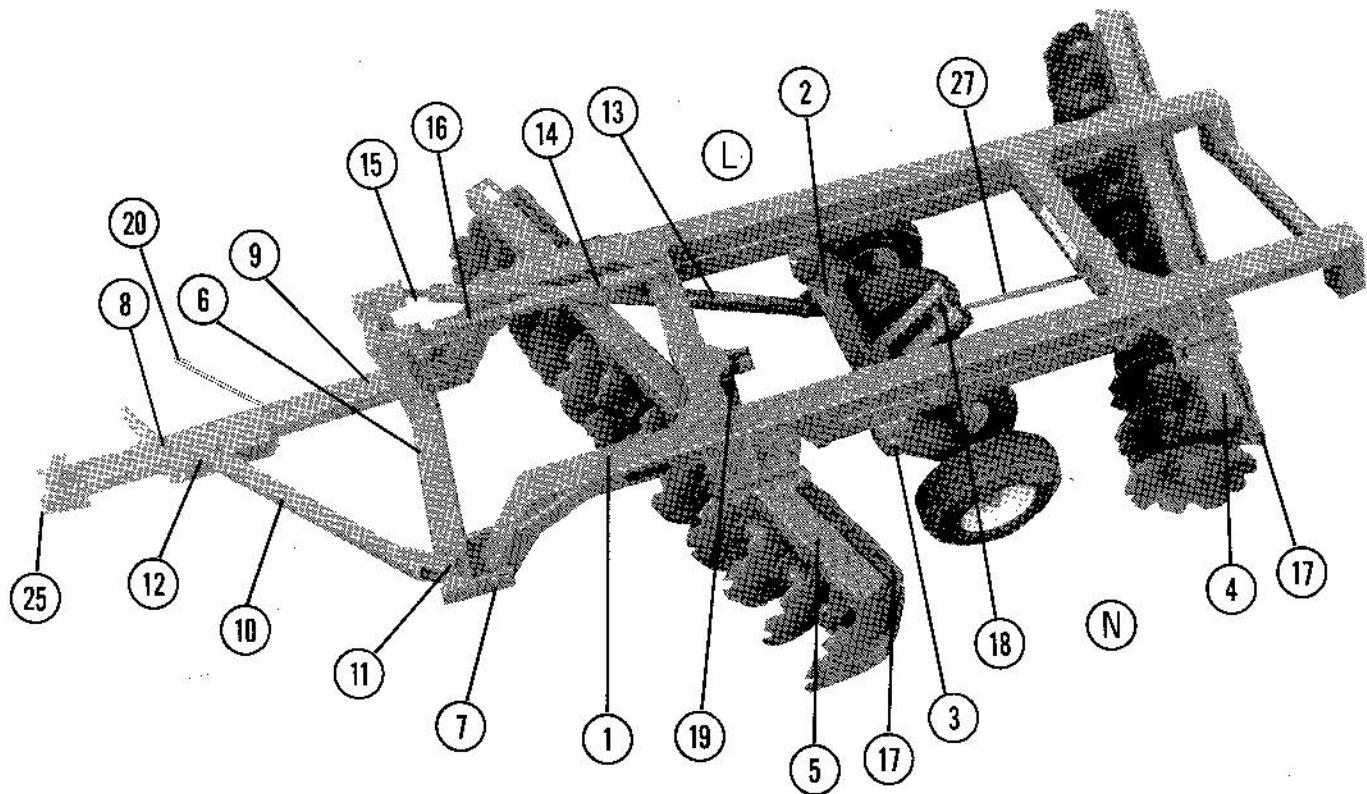

Figure 1
1. **To Install Wheel Carriage and Wheels:** (Refer to Figure 1) Place wheel carriage(2) under the main frame(1) and attach frame with pins(3). Install 5/16 x 2 lock bolts in pins and tighten lock nuts securely. Install wheels on to hubs with wheel bolts provided and tighten securely.
2. **To Attach Gang Bars to Frame:** (Refer to Figure 1) Bolt rear gang bar(4) to main frame(1) in center set of offsetting holes and in next-to-maximum angle with  $\frac{7}{8}$  x 3½ bolts. Install leveling washers on top of angling plates on long side of disc(L). Install levelling washers between gang bar and angling plates on narrow side of disc(N). Bolt front gang bar(5) to main frame in next to maximum angle with  $\frac{7}{8}$  x 3½ bolts. Install leveling washers same as rear gang.
3. **To Attach Hitch Bridle to Frame:** (Refer to Figure 1) Place bridle(6) at front of frame(1) and attach with pins(7). Install lock bolts and tighten nuts securely.
4. **To Attach Hitch Pole to Bridle:** (Refer to Figure 1) Attach main hitch pole(8) to bridle(6) at lead corner(9) with 1 x 6 bolt. Attach hitch side arm(10) to opposite side of bridle(11) with 1 x 6 bolt. Join hitch pole and side arm with 1" pin at adjustable eye bolt(12). Tighten all bolts securely.
5. **To Attach Fore-Aft Leveling Assembly:** (Refer to Figure 1) Install short tube(13) to wheel carriage with 1" pin. Install long tube(14) with 1" pin. Slide short fore-aft eye bolt(15) into bottom tube(13) (pinned to wheel carriage) and pin to bottom hole of bridle mast(6). Slide long fore-aft eye bolt c/w spring and washers into top tube(14) (attached to main frame) and pin to top hole of bridle mast(6).
6. **To Attach Scrapers:** (Refer to Figure 1) Attach scraper bars(17) to gang bars (4 & 5) with carriage bolts provided. Attach scrapers to scraper bar with clamps and bolts provided use care to adjust scrapers close to discs but not rubbing.
7. **To Double Wide Right and Left Hand Offsets:** (Refer to Double Wide drawing). Set together following regular instructions except item No. 4 - to attach hitch pole to bridle - the hitch pole is attached to the opposite side from the lead corner and the side arm is attached to the lead corner with 1 x 6 bolt. Set left hand disc(1) stationary and pull right hand disc(1) along side leaving front gang of right hand disc behind front gang of left hand disc. Attach rear spreader bar(5) with pins. Attach front spreader bar(6) with pins. Join right hand main hitch pole to left hand main hitch pole(3) with 1¼" pin(7). Adjust swivel flapper with 1 x 6 bolt for proper direction(8).
**1. Hydraulic Cylinder and Hoses:** (Refer to Figure 1) A standard 8" stroke double acting hydraulic cylinder is required to lift disc. Two 18 ft. hydraulic hoses are needed to allow full offsetting and turning without hose damage.
**CAUTION:** Be certain the rod or moving end of the cylinder is to the rear(18) with the butt end to the front at main frame(19). Fasten the hoses through hose stand(20) with enough slack to allow tractor to turn, but without enough to let hose drag.
**2. Angle Changing:** (Refer to Figure 1) To change angle. Raise disc on wheels unit discs are clear of ground. Remove bolt(21) and loosen the three remaining bolts. Slide gang bar forward or backward as desired. Replace bolt and tighten all bolts securely. For ordinary conditions set both front and rear gangs in next to maximum angle. Increase angles as required to suit conditions.
**4. Offsetting The Hitch:** (Refer to Figure 1) This unit is designed to trail straight behind the tractor. Minimum side draft will be obtained when the hitch is in line with outside beam of main frame. If more adjustment is required screw hitch side arm eye bolt(12) to desired position, then retighten jamb nut to reduce pressure on eye bolt thread.
**A. Front to Rear:** (Refer to Figure 1) Width disc raised and hitch to tractor, adjust bottom fore-aft eye bolt(15) until main frame is level. Adjust fore-aft spring lock(16) until spring is snug. The top spring should be under some compression when discing, but should never be compressed solidly. NOTE: In general use as little pressure as possible when discing.
**6. Transporting:** (Refer to Figure 1) Disc may be transported without using hydraulic cylinder. Place the rod(27) through the hole in anchor on frame(1) and place clevis over transport block. Raise the disc until the cylinder has reached the end of its stroke. Insert pin in clevis and adjust transport rod nut until there is about  $\frac{1}{8}$ " between nut and transport anchor. Release pressure on hydraulic cylinder and remove. **CAUTION:** extreme care should be taken not to collapse the cylinder too much with the transport rod in transport position.